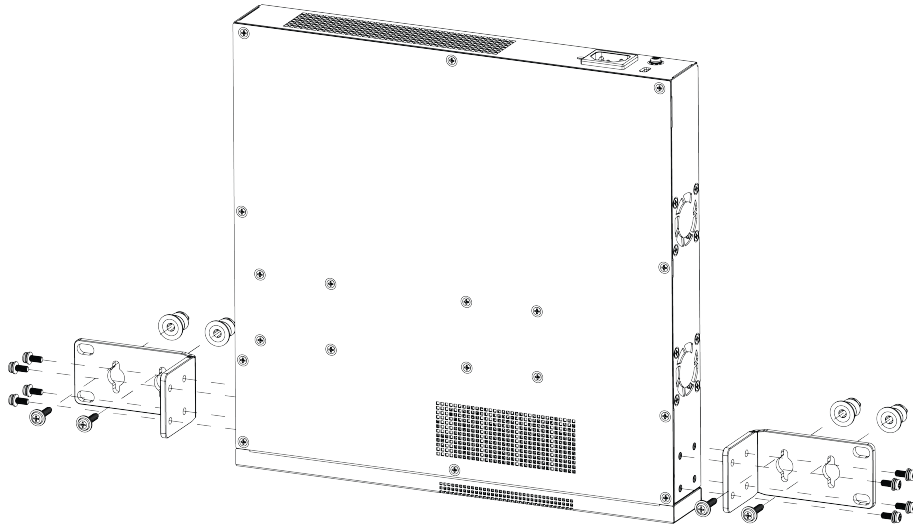
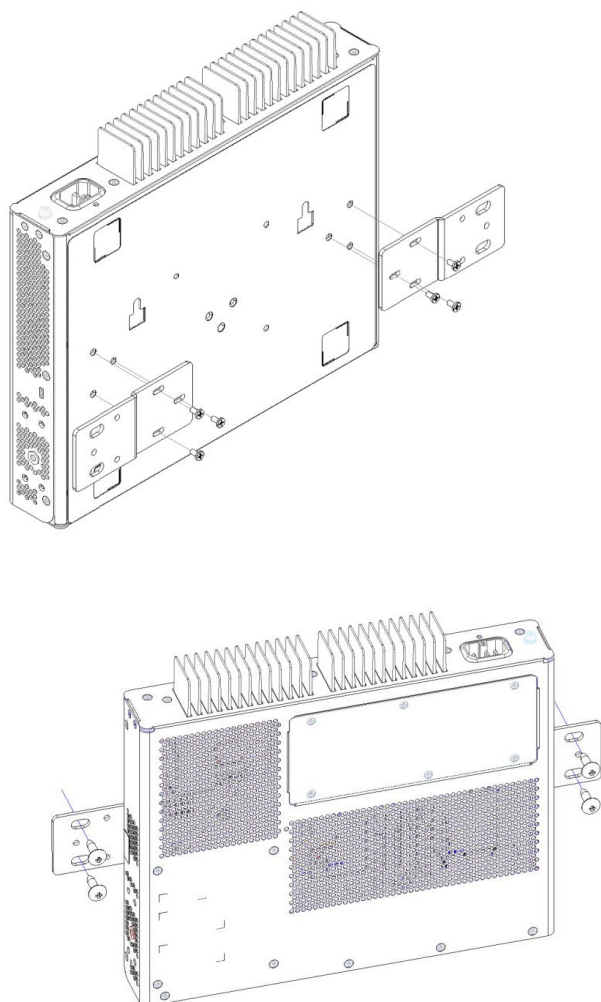

Figure 50: Wall-Mount: Attaching 1U mounting ears to 5320-24T-4X-XT and 5320-24T-24S-4XE-XT
Figure 52: Wall-Mount: Attaching mounting ears to 5320-16P-2MXT-2X and the wall
4. Using rack mount screws, attach a wall-mounting ear to the left side of the switch, at the front end. Figure 50 and Figure 52 on page 77 show the attachment of the screws.